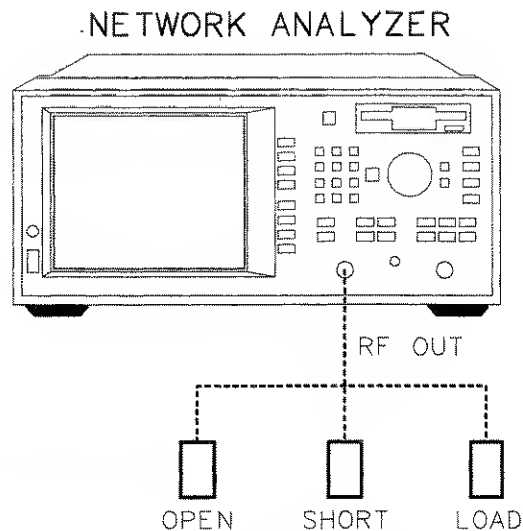

Figure 3-7. Equipment Satup For a Reflection Response Calibration
2. The instrument will prompt you to connect three standards (open, short and load) and measure them. See Figure 3-7.